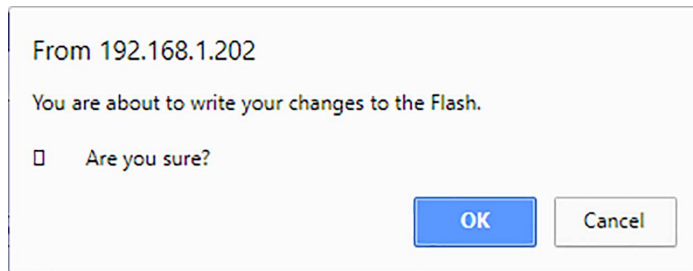

Figure 5-33 - Confirm Save Dialog
2. Click **Apply**. The following dialog appears (see Figure 5-33):